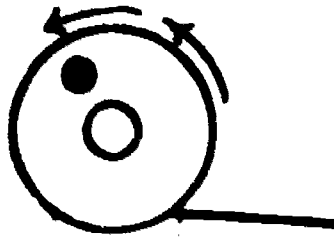

Figure 25. Bobbin Threaded.
- 12. Place the bobbin in the case so that the thread will unwind counterclockwise as the bobbin operates. The thread will unwind from the bobbin as shown in figure 25 when placed in the case.